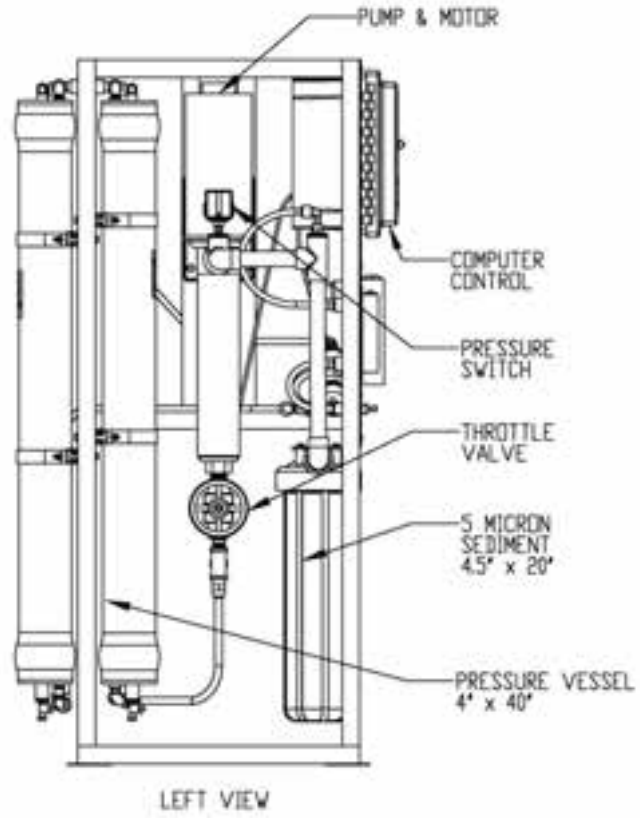

FIGURE 1D
4. Fully open the throttle valve (Counter Clockwise). (Figure 1D, Page. 17)
4. Adjust the throttle valve at 50% open (Counter Clockwise). (Figure 1D, Page. 17)